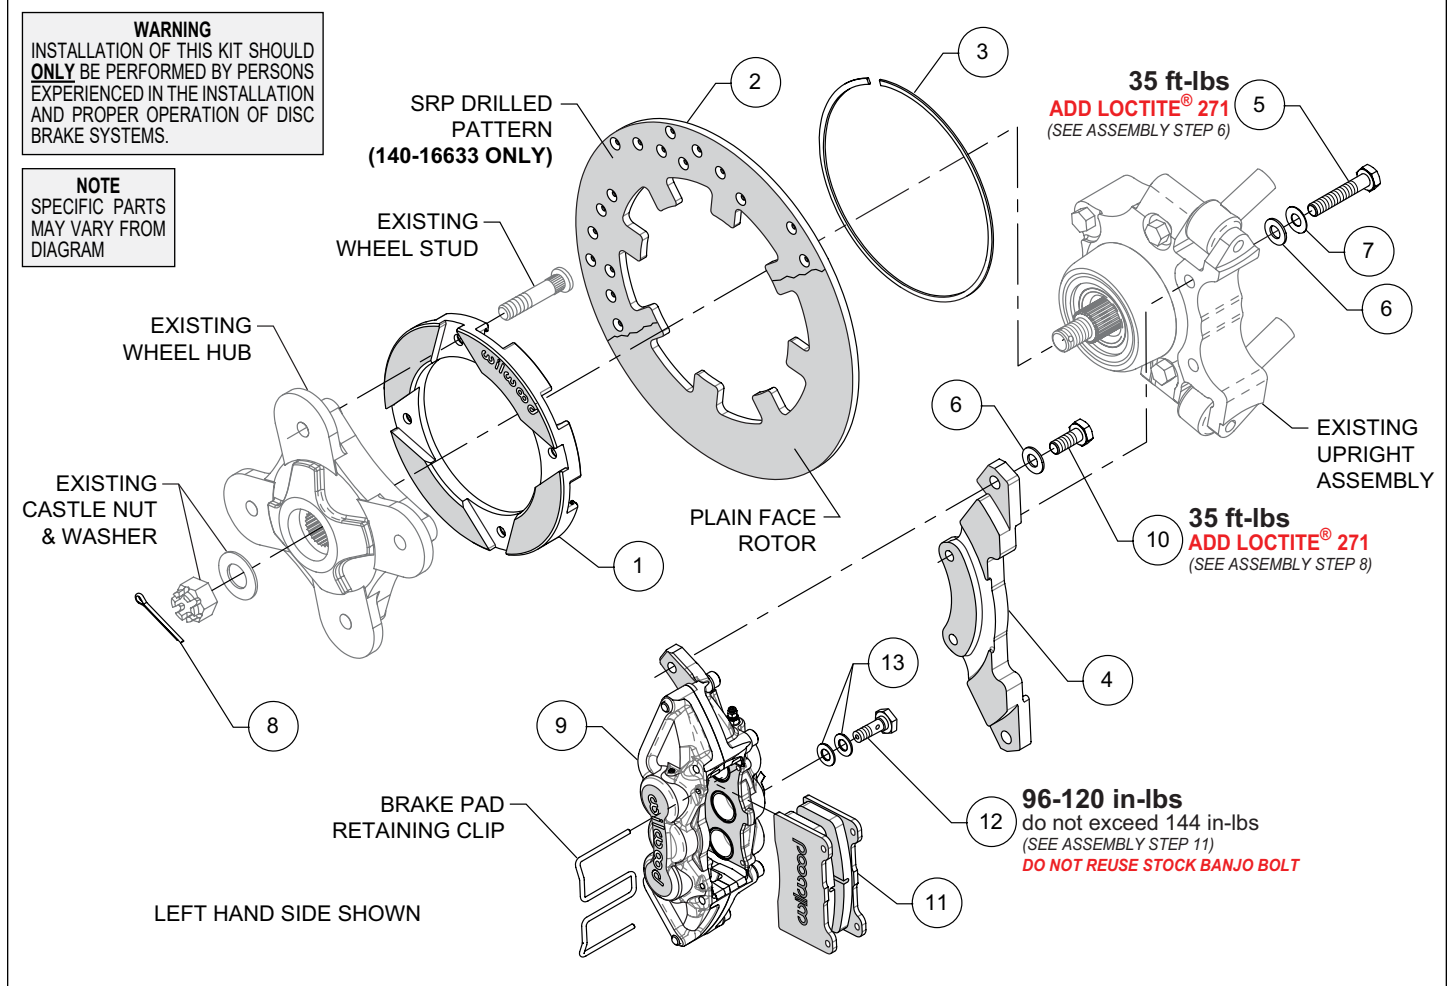

Figure 1. Typical Installation Configuration
**NOTE:** Numbers in parenthesis refer to the parts list and Figure 1 on the preceding pages.
**STEP 2** Place the existing OEM wheel hub face down and position the rotor adapter (1) onto the wheel hub as shown in Photo 1. **NOTE:** The existing wheel hub must be free of dirt and debris or excessive rotor run out may result. Press the OEM wheel studs back in through the rotor adapter and OEM wheel hub.
**STEP 6** Orient the caliper mounting bracket (4), as shown in Figure 1 and Photo 7. Install using bolts (5) and washers (6). Place one .030" shim (7) between washer (6) and bolt (5) to ensure proper clearance between rotor and end of bolt, see Figure 1. Apply red *Loctite*® 271 to the bolt threads and torque to value shown in Figure 1.
**STEP 7** Grease the splines and outer snout of the existing wheel hub with high temperature grease and slide the wheel hub/rotor assembly onto the axle, Photo 8. Attach using the existing OEM washer and castle nut. Tighten to OEM specifications and secure using cotter pin (8), Photo 9.
**STEP 8** Secure the caliper (9) to mounting bracket (4) using bolts (10) and washers (6), Photo 10. Apply red *Loctite*® 271 to the threads, and torque to value shown in Figure 1.
**STEP 9** Remove the pad retainer clip from the caliper (9). Insert the brake pads (11) into the caliper with the friction material facing the rotor, as shown in Photo 11. Reinstall the pad retainer clip, Photo 12.
**STEP 11** Attach brake line to caliper. Orient brake line as shown in Photo 12 and connect to caliper using banjo bolt (12) and crush washers (13). Do not use lubricant or thread sealant on banjo bolt (12). Torque to minimum value shown in Figure 1. Check for leakage, increasing torque only to stop leakage without exceeding maximum specification. Replace crush washers and banjo bolt whenever reassembly is required. **Ensure hoses are routed to prevent contact with moving suspension, brake or wheel components.**